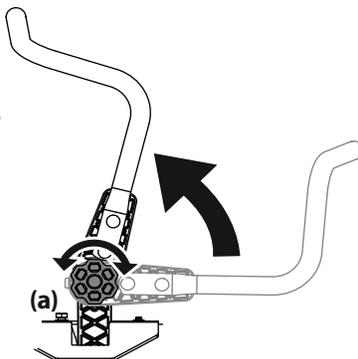

Figure 9
1. Rotate the knob (a) counter-clockwise to loosen the knob (a). See Figure 9.
3. Rotate the knob clockwise to secure the lapbar drive control lever into position. See Figure 9.